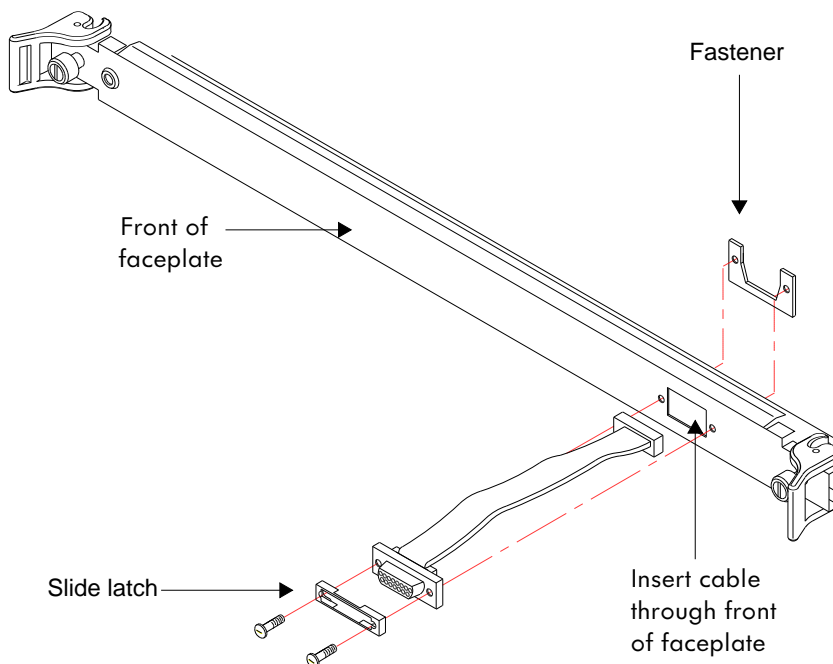

FIGURE 5–11 How an AUI Media Cable is attached to the UMM.
Figure 5–11 shows how an AUI Media Cable is attached to the front panel of the UMM. You might want to refer to this figure as you perform the following procedure.
- (1) If you have not already done so, use the procedure in Section 5.8.2 to remove the UMM from the PowerHub chassis.
- (2) Use the small flat-head screwdriver to remove the two 4-40 3/8" screws that fasten the AUI connector and slide latch to the UMM front panel. When you remove the screws, the slide latch and the fastener that secures the connection from the rear of the UMM front panel (see Figure 5–11) are freed.
- (3) Collect the two screws, the slide latch, and the fastener and place them in a container for storage. You might need them if you choose to reinstall the AUI Media Cable in this UMM or another UMM at a later time.
- (4) Pull the AUI Media Cable's pin connector loose from the socket on the UMM. If the connector does not come off easily, gently rock the connector from side to side to free it from the pins.
- (5) From the rear, pull the connector out of the UMM front panel.
- (6) Unless you plan to immediately reinstall the AUI Media Cable on the same or another UMM, place the removed AUI Media Cable in an appropriate storage container. You might want to store the screws, slide latch, and fastener in the same container.
- (7) If you plan to install an EMA in place of the removed AUI Media Cable, use the procedure in Section 5.9.2. If you plan to leave the segment position unoccupied, install a cover plate (part# 171-1230-0001).